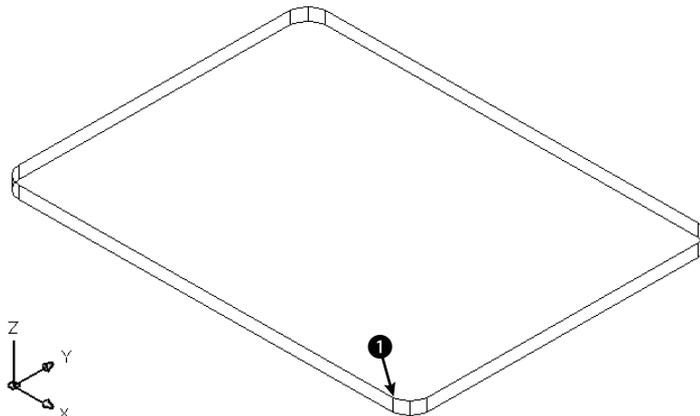

Figure 23-28: The tabletop.
2. Save it as `ab23-05.dwg` in your AutoCAD Bible folder. You see a tabletop drawn at a Z height of 30. The current elevation is 30. You're looking at the table from the SE isometric view. OSNAP should be on. Set running object snaps for endpoint, midpoint, and center. The current layer is `Const`. The drawing is shown in Figure 23-28.
_from Base point: Pick the endpoint at ❶ in Figure 23-28.